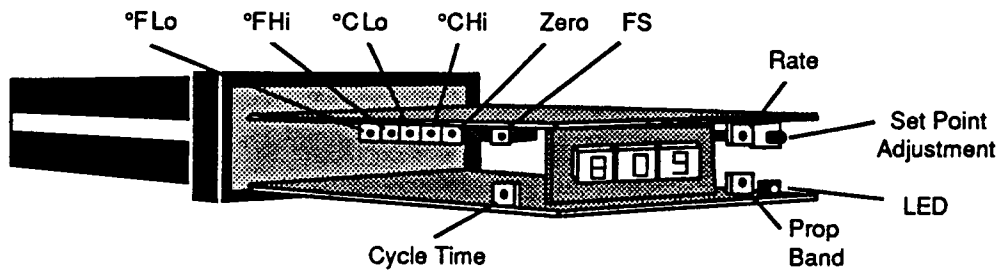

Figure 8 - Series 809 Potentiometer Locations
2. Set millivolt source to 0.00mV or 32°F; adjust °F Lo pot for 0.160V on DVM and adjust Zero pot for 32 on the control display. See Figure 8 or 9 for pot locations.
Refer to Figures 8 and 9 on Page 7 for the location of each potentiometer.